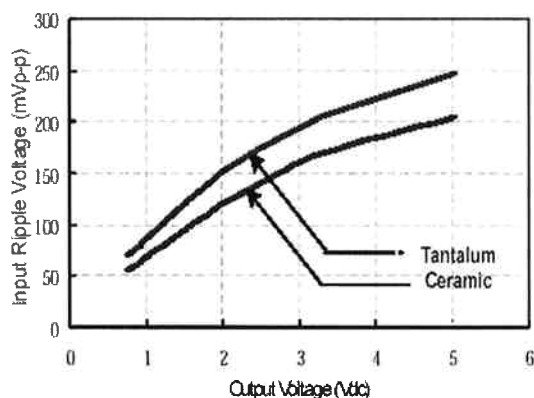

Figure 8 Input voltage ripple VS Output voltage
3. 2 $\times$ 47 μ F tantalum, 2 $\times$ 22 μ F ceramic ----- Figure 8